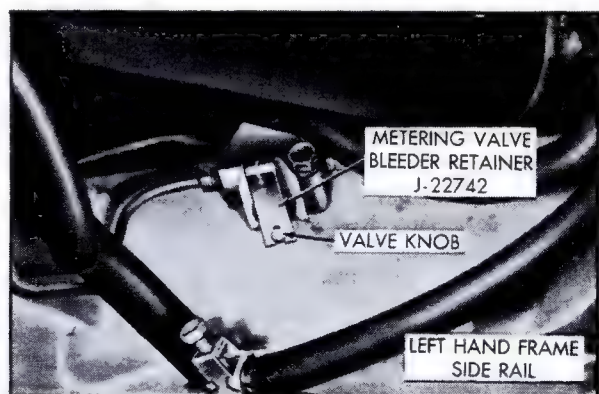

Fig. 5-9 Holding Metering Valve Open
3. Using pliers, install Metering Valve Bleeder Retainer, J-22742, on metering valve so that knob is held open, Fig. 5-9. Bend retainer only enough to install. Excessive bending will break tool.